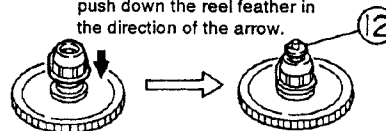

Fig. 4-17
■ Reel disk ass'y (See Fig. 4-17)